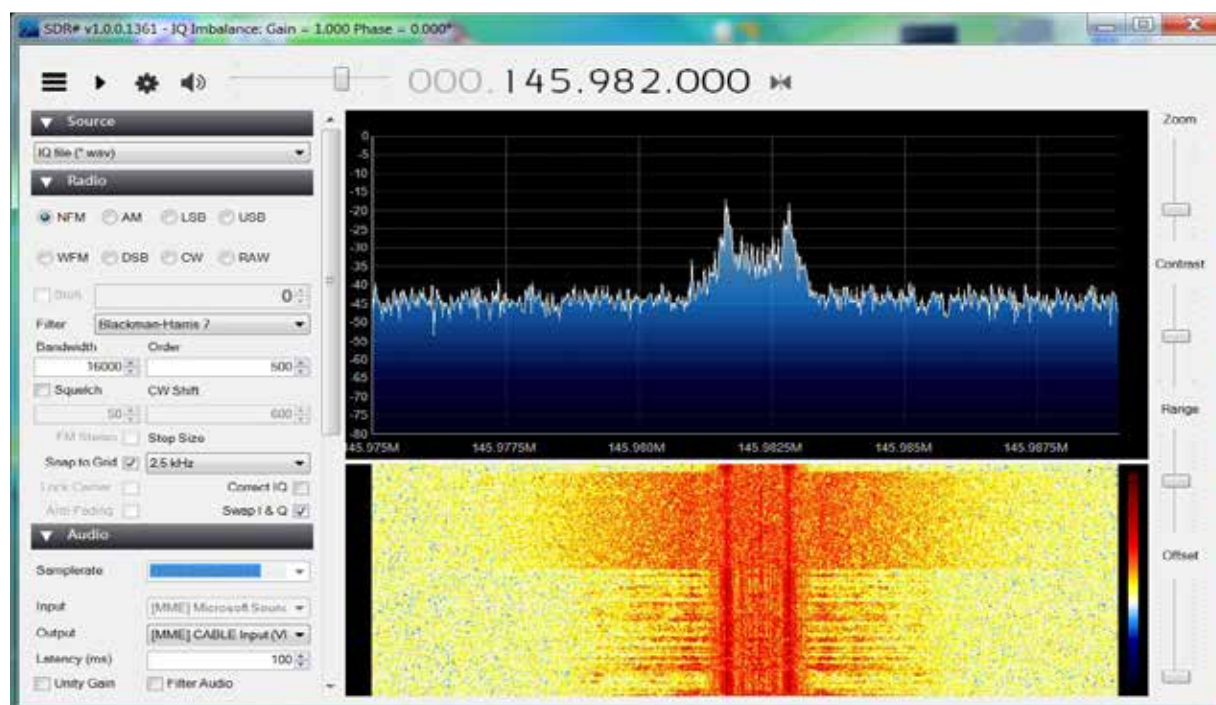

Figure 7.
6. To test your system, download the wav files (Safe mode) from amsat.us/FoxTelem/recordings/. See section 3.3 of the manual. These files are for the HSDR program and give odd results with SDRSharp. Note that "Correct I Q" must be unticked and "Swap I & Q" must be ticked to give the correct frequency indication. Patrick, WD9EWK, also has a good source of test files from HSDR. (See dropbox.wd9ewk.net/ and Figure 7.)